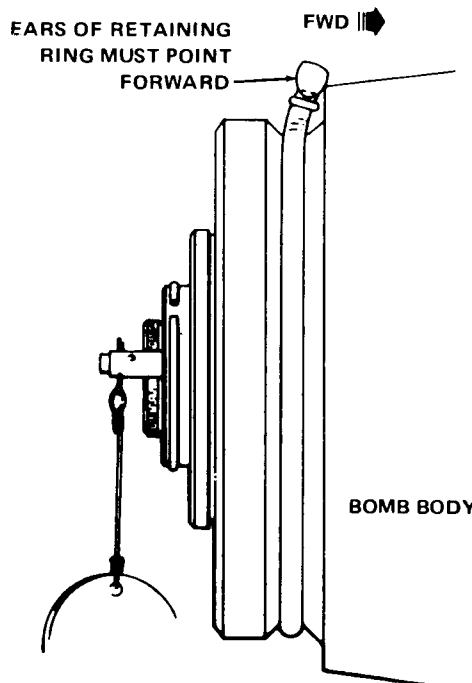

Figure 3-27. Ears Pointing Forward at 12 O'Clock Position Hole
3. Place silver colored retaining ring (ink stamped 30003-2602857) in aft V-groove of bomb body with ears pointing forward (figure 3-27).
5. Place ears so they straddle the 12 o'clock position hole on bomb (figures 3-27 and 3-28).
4. Place silver colored retaining ring (ink stamped 30003-2602857) in aft V-groove of bomb body with ears pointing forward (figure 3-27).